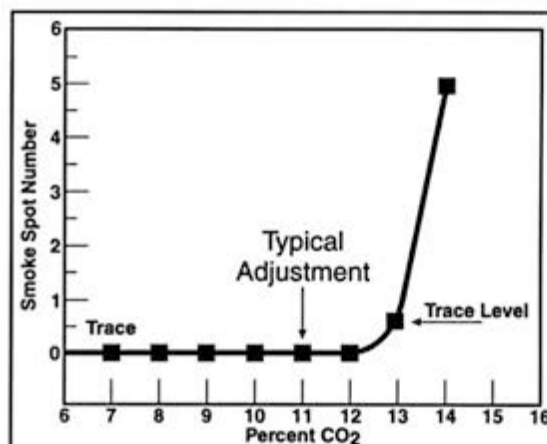

FIGURE 62 Typical smoke vs. CO_2 percent
- (2) At the trace level, measure the CO_2 or O_2 . This is typically around 13% CO_2 / 3.3% O_2 . (See Figure 62.) Now, increase the air setting until the CO_2 is reduced by 1 to 2 percentage points from a trace of smoke, or the O_2 is increased by about 2 to 3 percentage points.
- (3) Make a smoke test. It should be zero. You have built in a margin to accommodate variables that could be encountered during the heating season.
- (4) Lock the air adjustment and repeat draft, CO_2/O_2 , and smoke measurements to make sure the setting has not shifted.